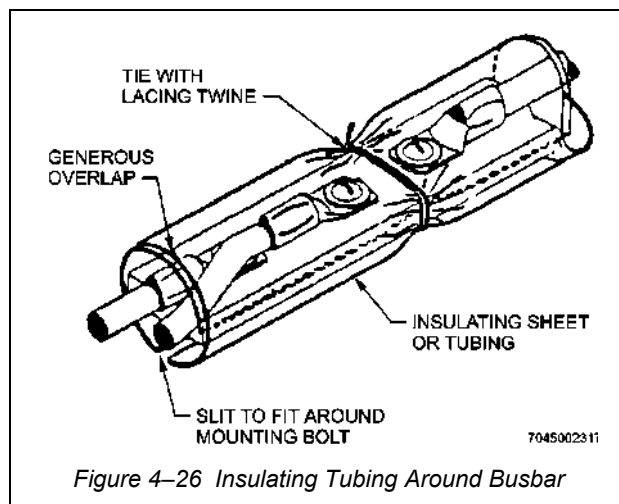

Figure 4-26 Insulating Tubing Around Busbar
75. Busbars can also be protected by slitting a piece of insulating tubing and wrapping it around the busbar after all connections are made. Select insulating tubing which has large enough diameter to permit a generous overlap when tying it in place. See Figure 4-26 for cutting and tying details.